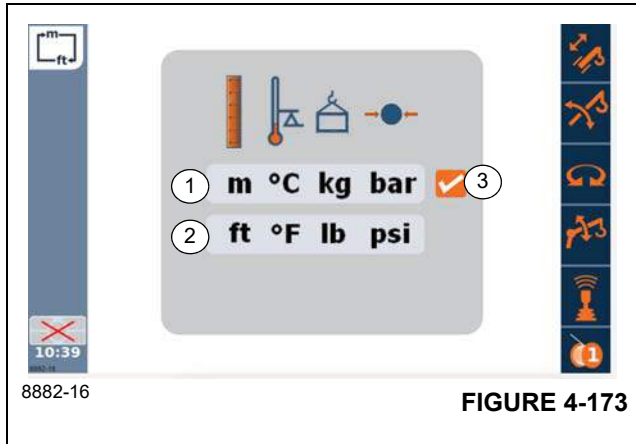

FIGURE 4-173
- Select and confirm the symbol (Figure 4-173):